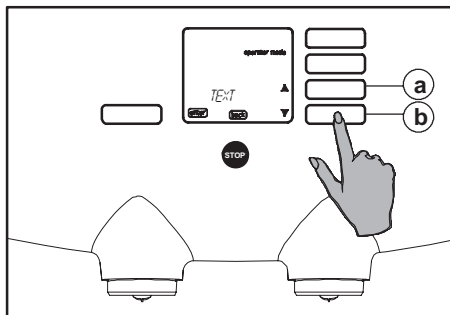

Fig. 63 "TEXT" selection menu
In the operator menu, from the "TEXT" selection menu (fig. 63), you can choose whether the text "SELECT DRINK" should show in the display or not before a drink is selected.
3. Use the scroll buttons \updownarrow until the option "TEXT" appears in the display (fig. 63 a or b).